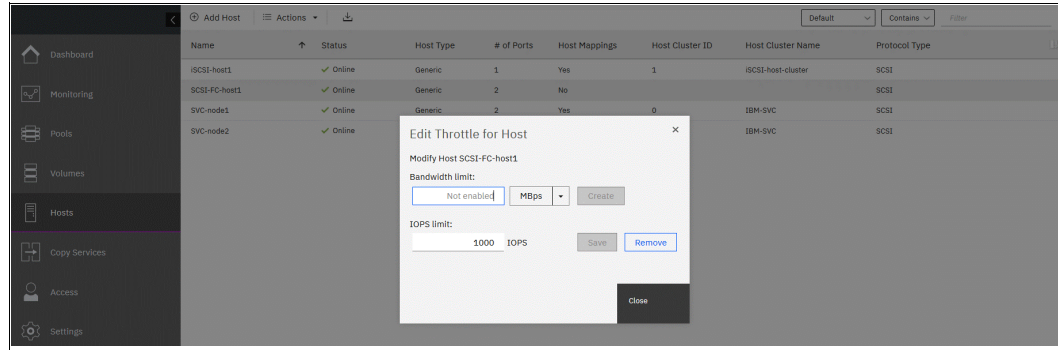

Figure 7-45 Edit Throttle for Host dialog
2. The Edit Throttle for Host dialog opens, as shown in Figure 7-45 on page 445.